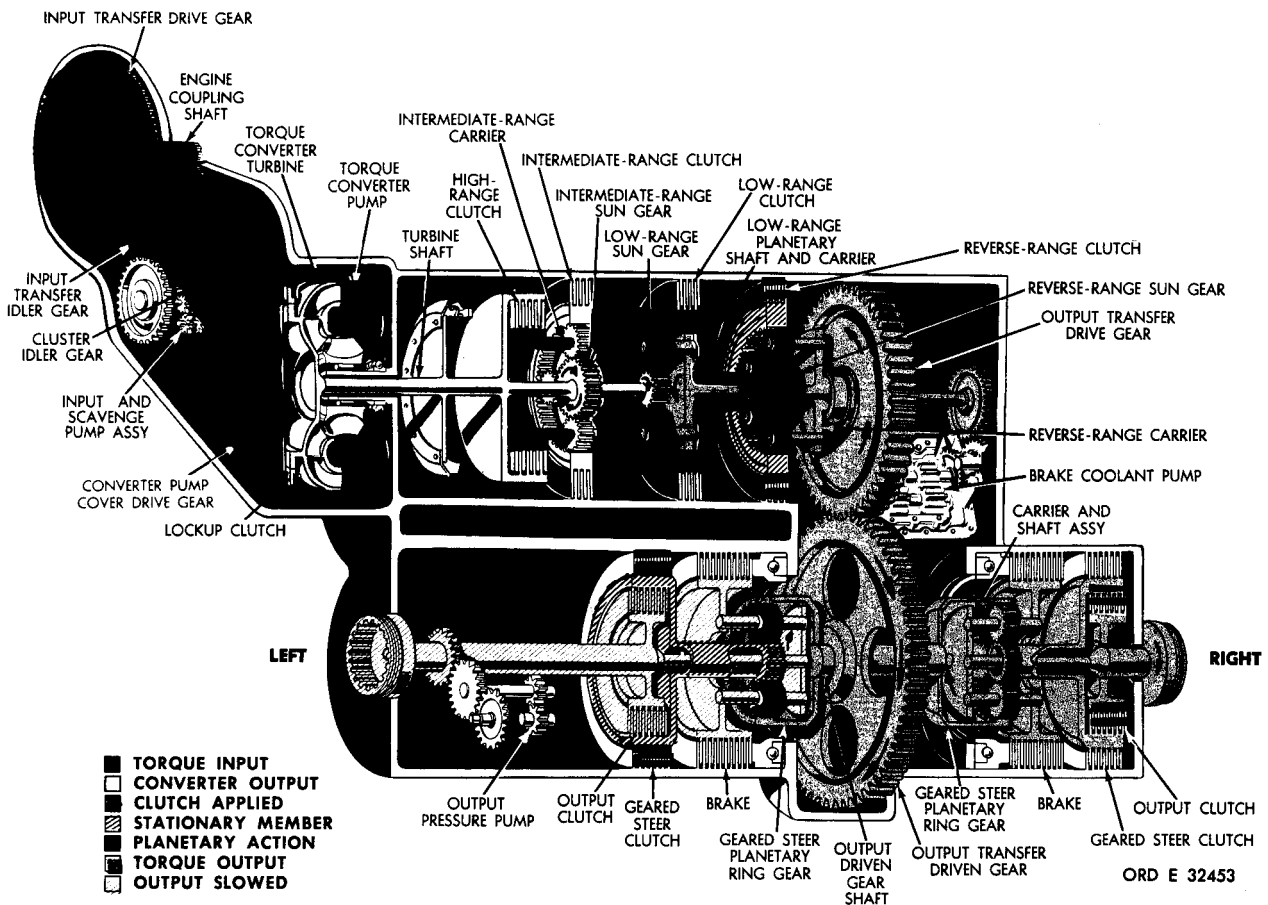

Figure 34. Reverse 2-gear, full-left-steer torque path,converter operation
**58. TORQUE PATH - REVERSE 2 GEAR, FULL-LEFT STEER, CONVERTER OPERATION (fig. 34)**